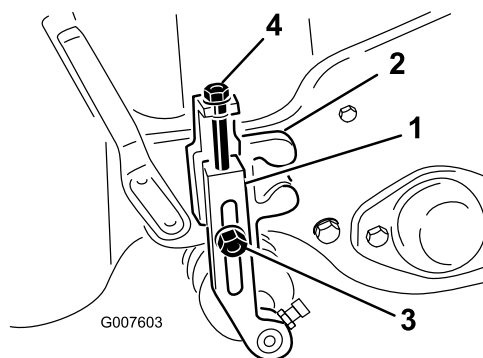

Figure 46
2. Loosen the locknuts securing the height-of-cut arms to the height-of-cut brackets (Figure 46).